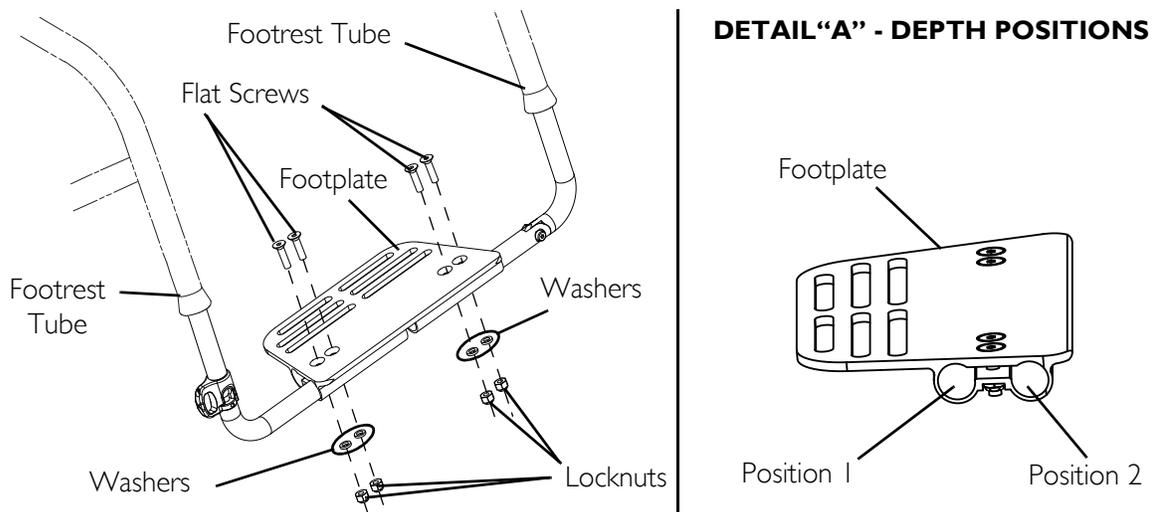

FIGURE 7.4 Adjusting Footplate Angle - Adjusting Footplate Depth
NOTE: For this procedure, refer to FIGURE 7.4.
3. Move the footplate to one of two positions to accommodate the user. See Detail "A" of FIGURE 7.4